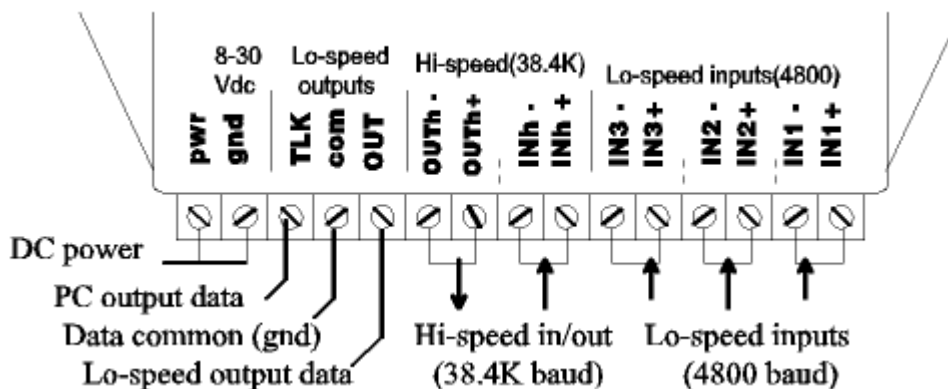

Figure1 AM43 Connections
- Figure 1 - AM43 Connections
Installation of the AM43 requires connection to a power source and to NMEA talkers and listeners. All connections are made via a fifteen position terminal strip (see Figure 1). A description of the connections is given in Table 1. Any unused connections open may be left disconnected. A USB connector is provided on the rear for connection to a computer, if desired.